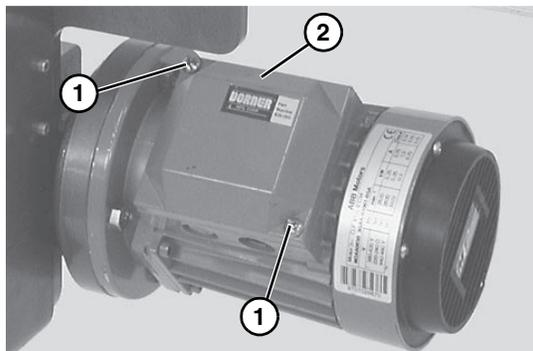

Figure 14
- a. Loosen terminal box screws (Figure 14, item 1) and remove cover (Figure 14, item 2).